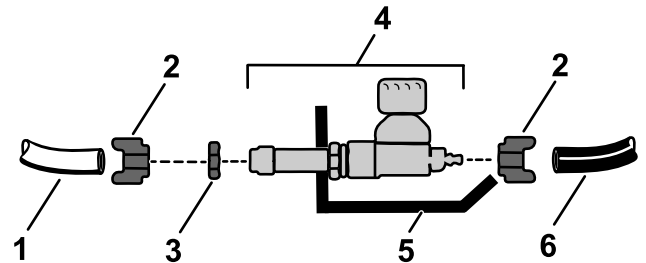

Figure 10
1. Loosen and remove the compression nuts from the valve body (Figure 10).
2. Loosen and remove the jam nut from the valve (Figure 10).
3. Use the previously removed jam nut to secure the valve to the valve mount (Figure 10).
4. Insert the blue tube and the white tube into a compression nut (Figure 10).
5. Secure the blue and white tubes to the valve by screwing the compression nut onto the valve (Figure 10).